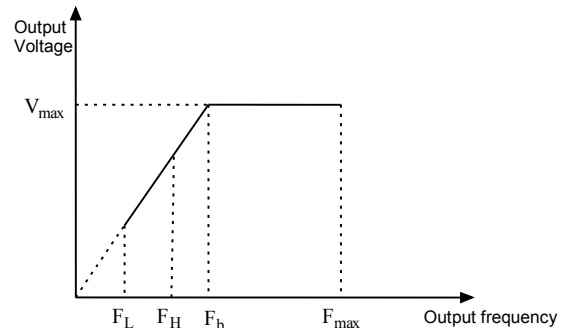

Fig.6-1 Characteristic parameters
Max output frequency is the highest permissible output frequency of the drive, as shown in Fig. 6-1 as F_{max} ;
Max output voltage is the highest permissible output voltage of the drive, as shown in Fig. 6-1 as V_{max}
Upper limit of frequency is the highest permissible operating frequency of the user setting, as shown in Fig. 6-1 as F_H .
Lower limit of frequency is the lowest permissible operating frequency of the user setting,as shown in Fig.6-1 as F_L .
Basic operating frequency is the Min. frequency when the drive outputs the max voltage in V/F mode, as shown in Fig. 6-1 as F_b
4. The Max. output frequency, upper limit frequency and lower limit frequency is as shown in Fig.6-1.